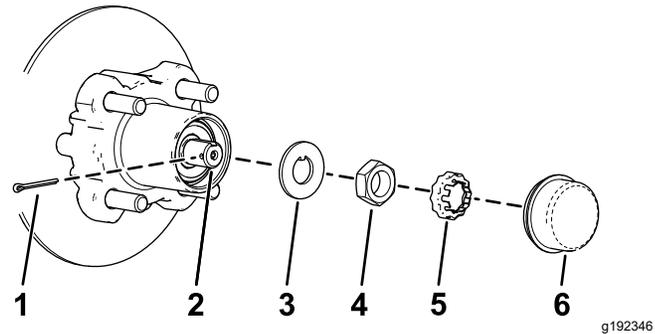

Figure 34
4. Remove the dust cap from the hub (Figure 34).
5. Remove the cotten pin and nut retainer from the spindle and spindle nut (Figure 34).
6. Remove the spindle nut from the spindle, and separate the hub and rotor assembly from the spindle (Figure 34 and Figure 35).